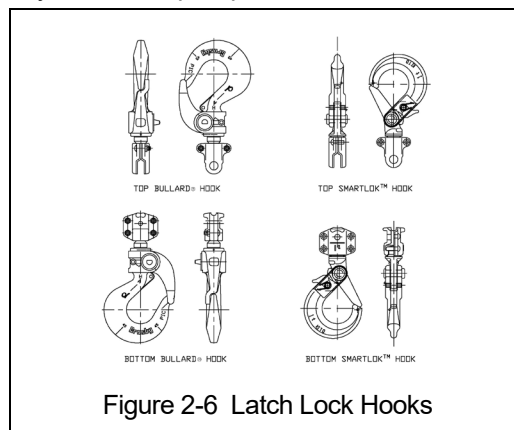

Figure 2-6 Latch Lock Hooks
- The Bullard® hook has a conventional hook shape with a special, heavy-duty, rotating, spring-loaded, locking latch. The latch remains locked until it is released by the operator. Refer to Figure 2-6.